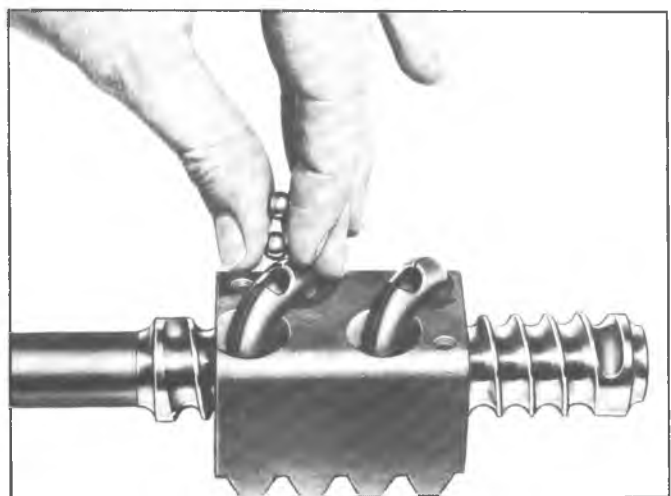

Fig. 11--Filling Ball Circuits--Except Corvette
4. **All Except Corvette (fig. 11):**